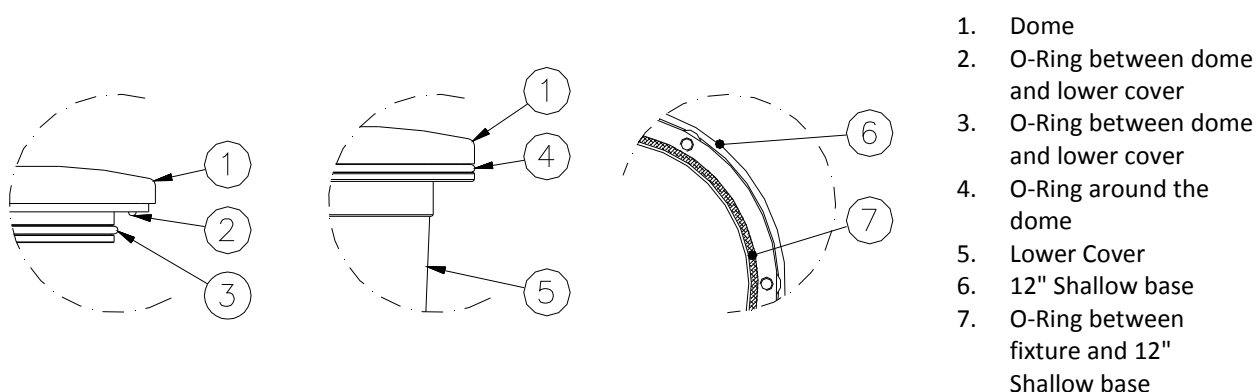

Figure 24– Fixture Gaskets
- two O-Ring between dome and lower cover (Figure 24 - n°2 and 3);
- O-Ring around the dome (Figure 24 - n°3);
- O-Ring between fixture and 12" shallow base (Figure 24 - n°7);